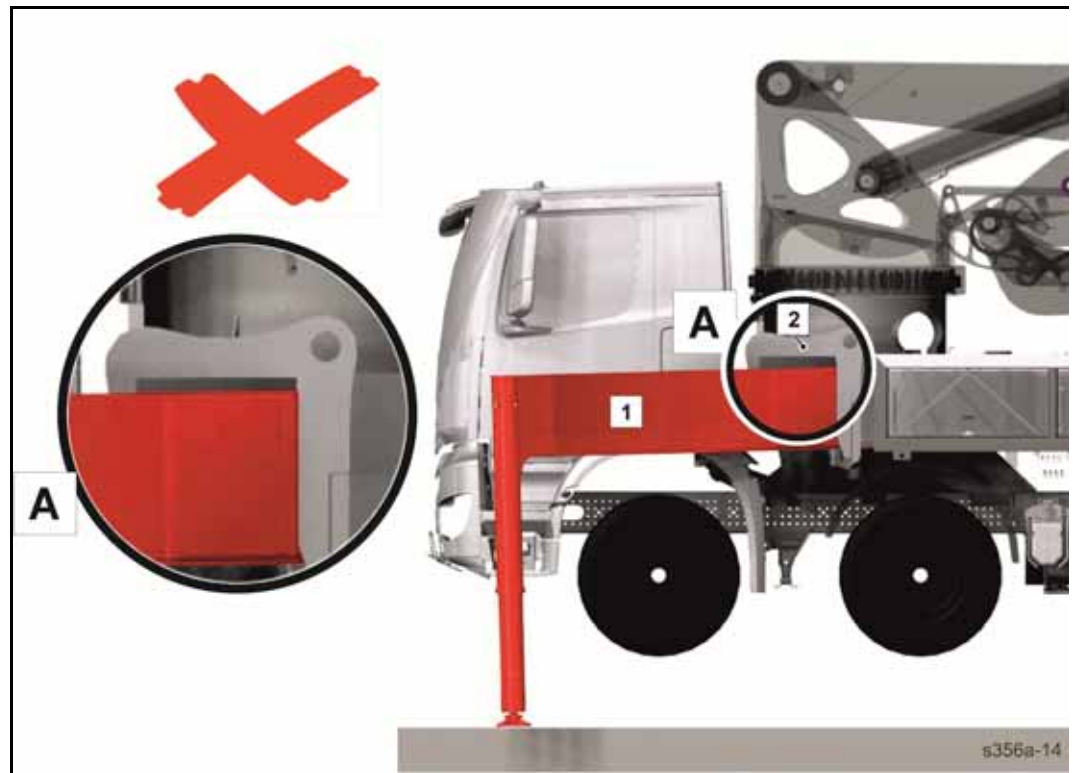
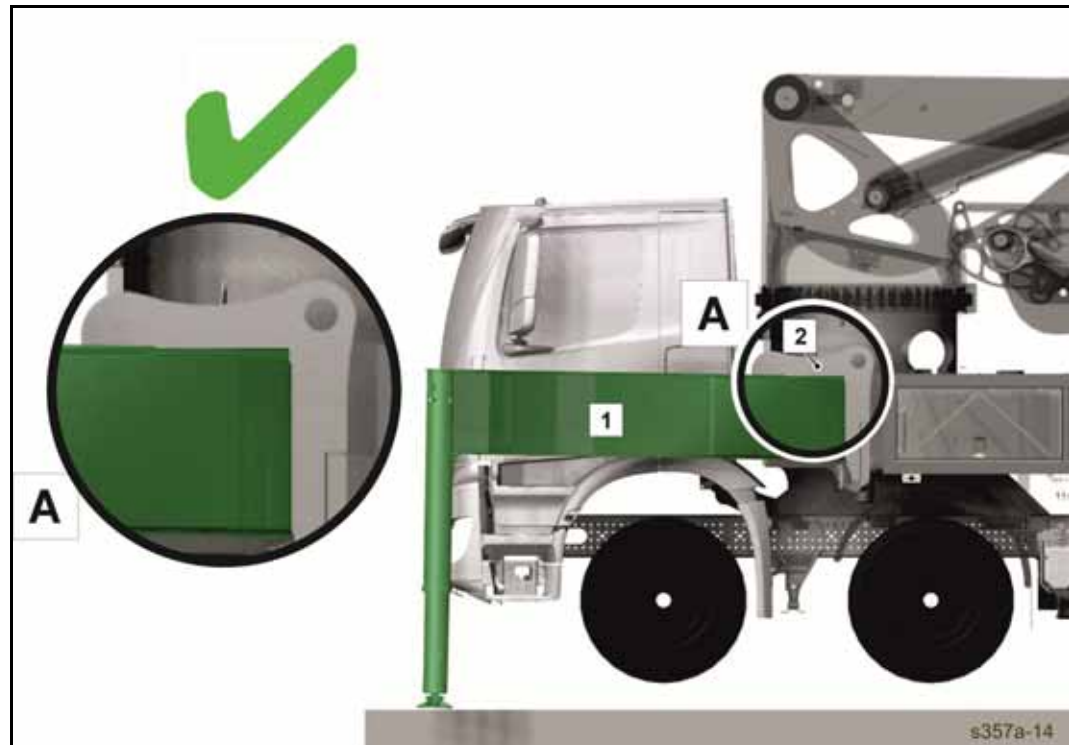

Fig. 137 Attention! Drawer gap
Fig. 138 Drawer gap OK:
Make sure that there is no space between the supports (1) and base frames (2) after being raised (none of the vehicle wheels are touching the ground), see **(Fig. 137)** and **(Fig. 138)**.